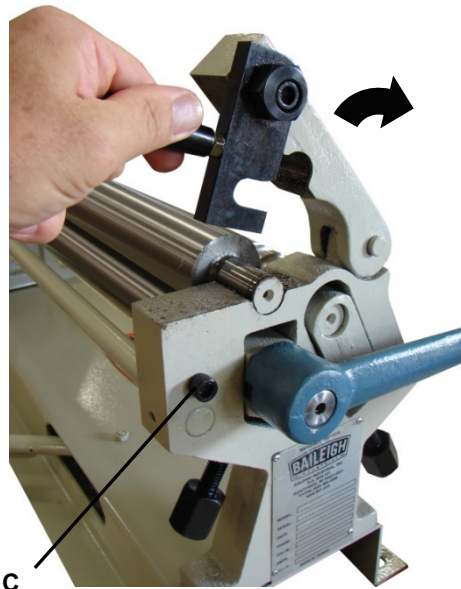

Figure 7-2
- Grasp the handle on the locking plate and pivot clockwise (cw) to release from the lock bolt (C) (fig. 7-2).